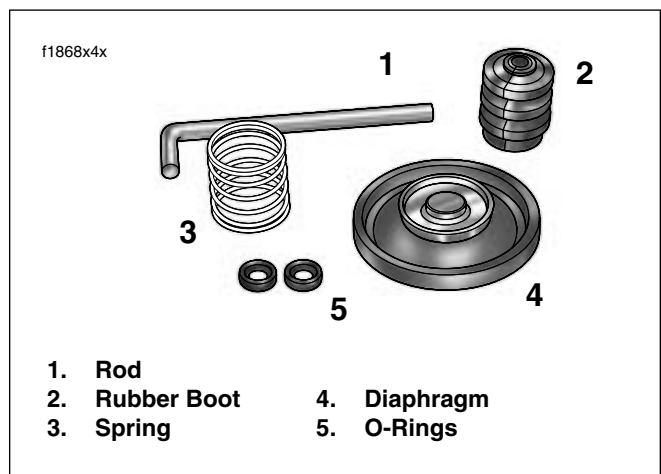

Figure 4-9. Accelerator Pump Components
8. Disassemble accelerator pump from float bowl. See Figure 4-9. Proceed as follows: